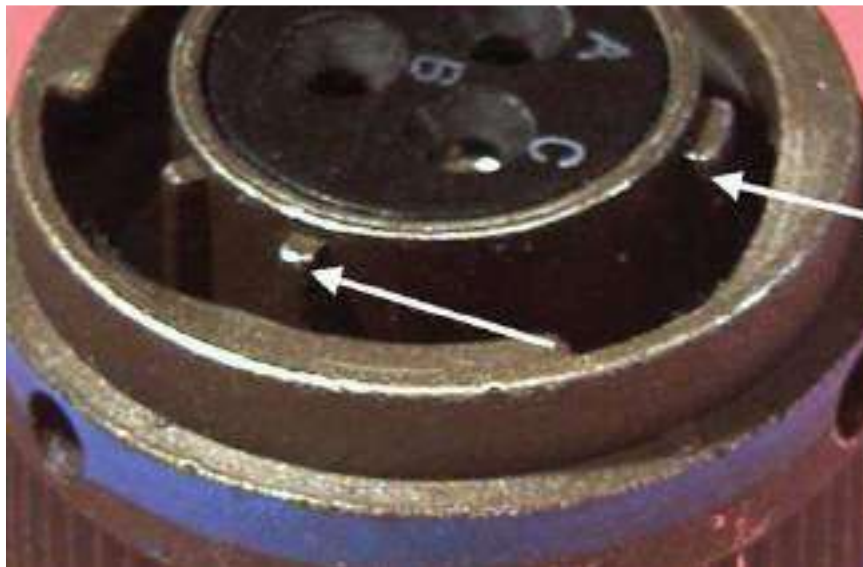

Figure 1
- (1) Scuff marks that do not expose basis metal, as shown below.
- (2) Key or keyways are not distorted but do show signs of normal wear, as shown in Figure 1.